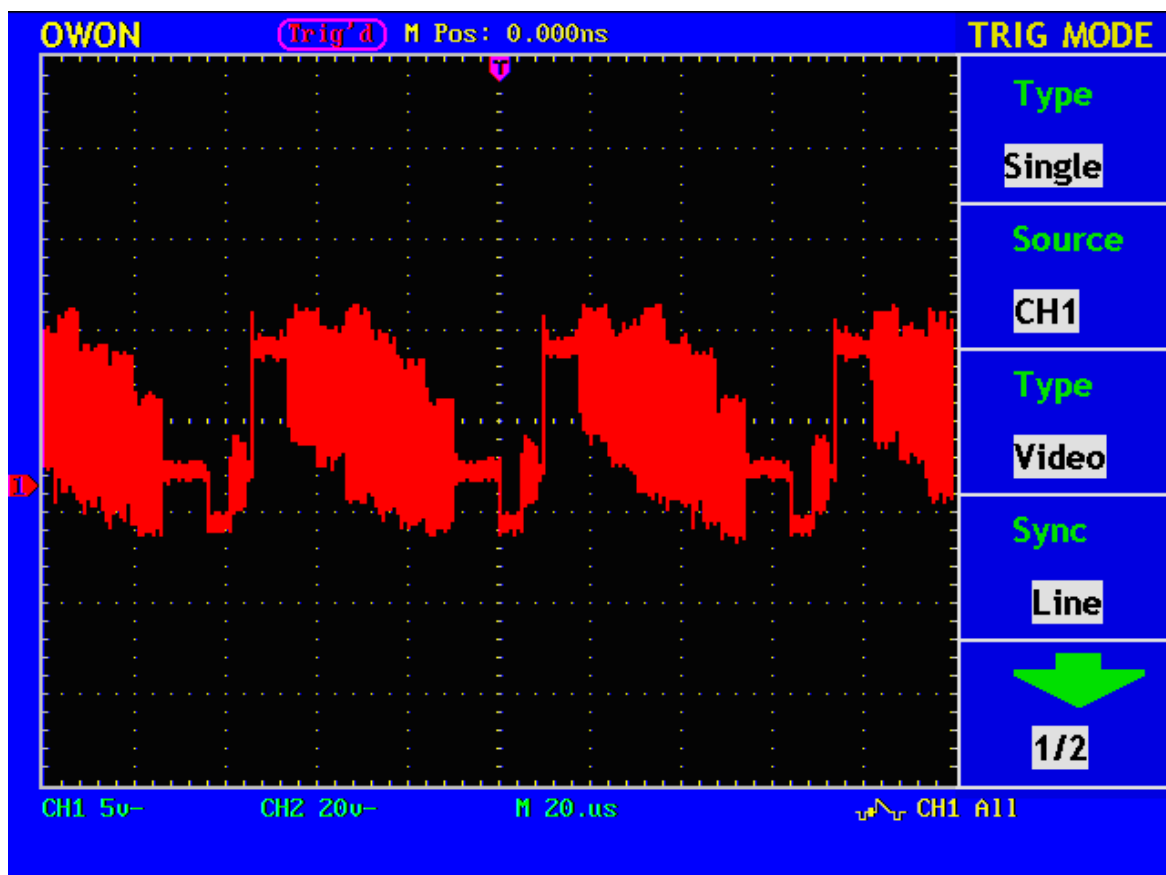

Fig. 62 Wave Form Obtained from the Video Line Trigger
6. Adjust the **VOLTS/DIV**; **VERTICAL POSITION** and **SEC/DIV** knobs to obtain the proper wave form display (see Fig. 62).